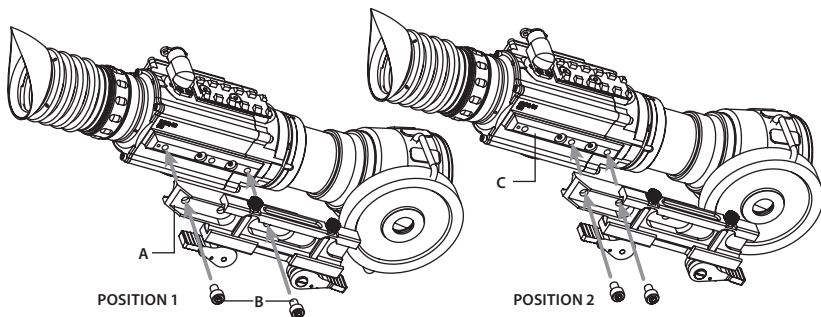

FIGURE 3-3. THE DRONE PRO MOUNT INSTALLATION
The mount (A, Figure 3-3) is attached to the Drone PRO seating rail (C) with two M5×8 flathead socket cap screws (B).
1. Remove the two screws (B, Figure 3-3) that attach the mount (A, Figure 3-3) to the seating rail (C, Figure 3-3).